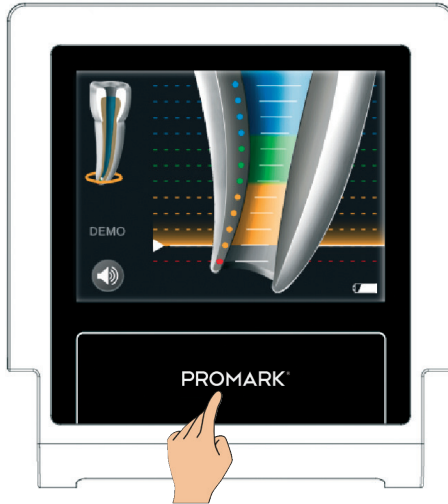

Fig. 37 Exit DEMO mode
- To exit the DEMO mode, tap the ProMark® “home” icon (Fig. 37).